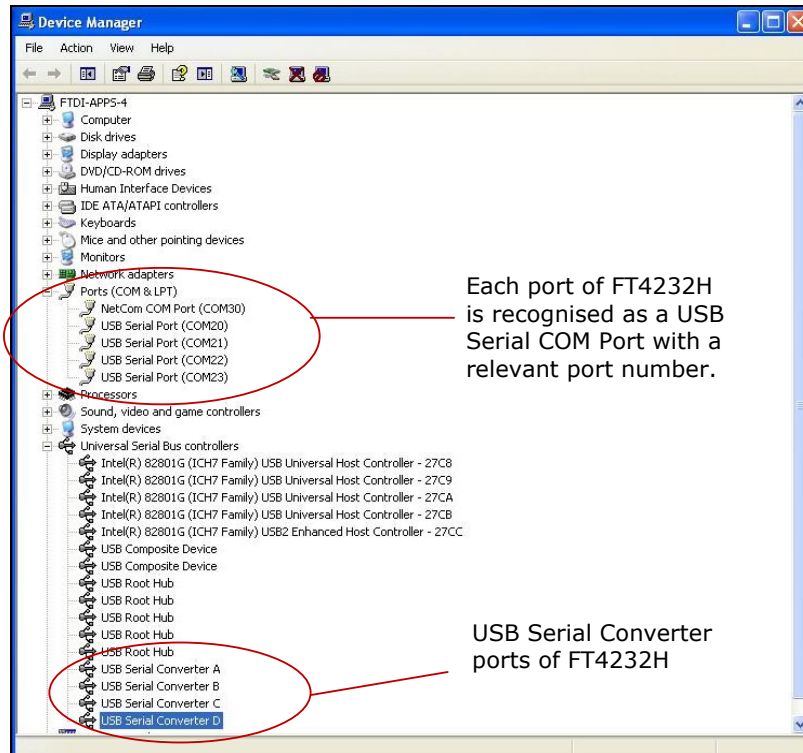

Figure 7.6: Device Manager Screen
6. To verify that the drivers have been installed successfully, open the Device Manager located in "Control Panel\System" then select the "Hardware" tab and click "Device Manger") and select "View > Devices by Connection". Each FT4232H port should appear as a "USB Serial Converter" under the "USB Serial Bus Controllers". Further under the "Ports" section four "USB Serial Ports" should be listed, as per Figure 7.6.